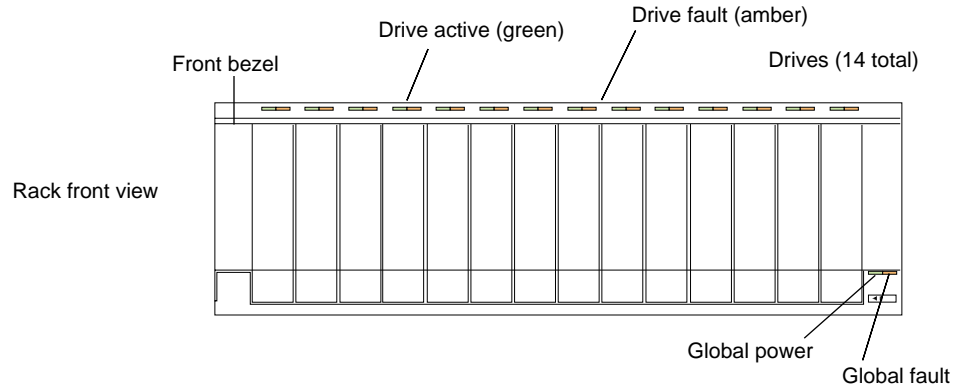
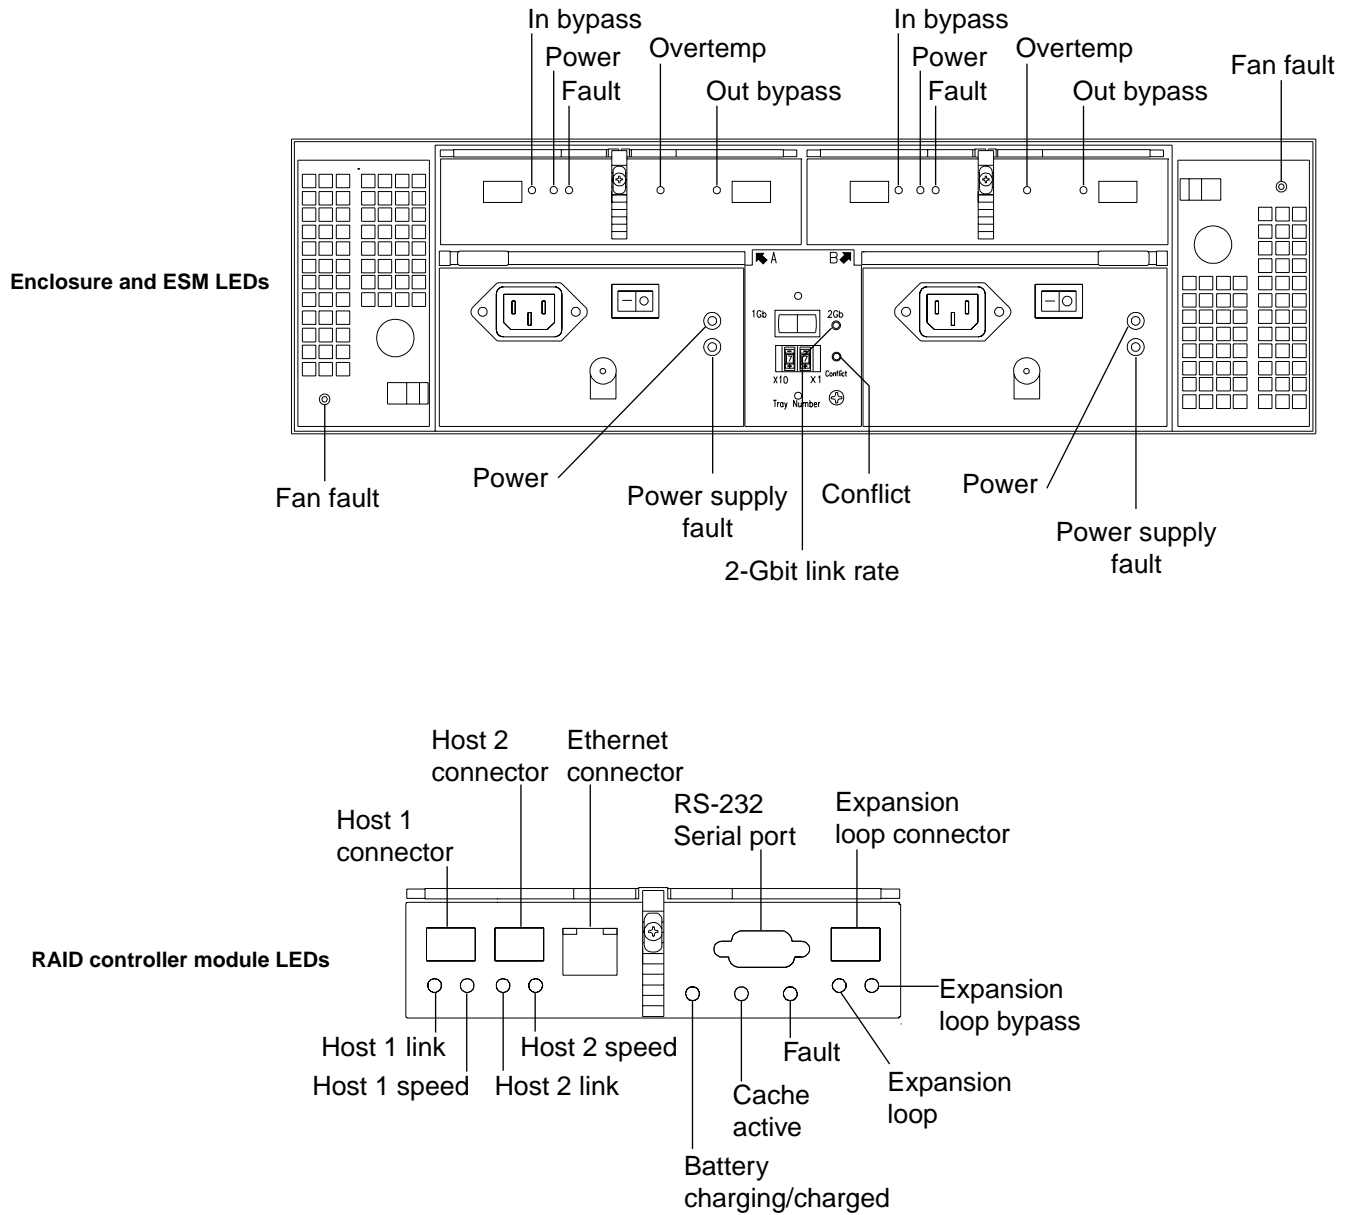

Figure 3-2 Storage Enclosure Front Indicator Lights
Figure 3-3 Storage Enclosure Rear Indicator Lights
In the expansion enclosures, the overtemp indicator on the environmental status module illuminates if the temperature reaches 40 °C (104 °F). If both power supplies shut down, the overtemp indicator cannot come on. See Figure 3-3 on page 37 for the location of the overtemp indicators on expansion enclosures.
3. Make sure that all the enclosure fault indicators are off (see Figure 3-2 on page 35 and Figure 3-3 on page 37).
Important: Except as described in the notes following Figure 3-2 and Figure 3-3, an amber light indicates a component failure. If you see an amber indicator, run TPSSM to diagnose and repair the problem.
This section describes the front indicator lights for the controller and expansion enclosures. Figure 3-2 shows the front indicators for the controller and expansion enclosures.
This section describes the rear indicator lights for the controller and expansion enclosures. Figure 3-3 shows the rear indicators on the expansion enclosure and the RAID controller. Controller enclosures have RAID controller LEDs, but not ESM LEDs.